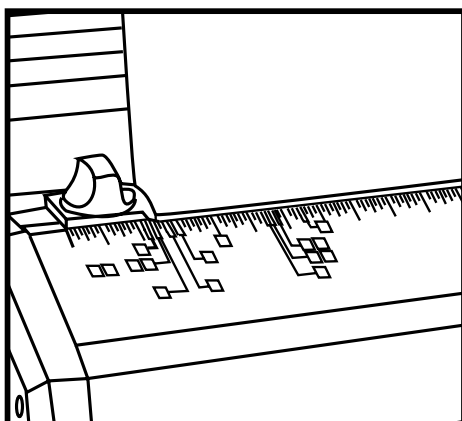

Figure 5
Step 1: Turn the machine on by pushing the ON/Off (I/O) Switch at the back of the machine to ON (I).
Step 2: Insert the stack of sheets to be punched completely into the Punch Throat. Next, slide the stack of sheets to the left, so that the stack of sheets rests against the Edge Guide (see Figure 5).